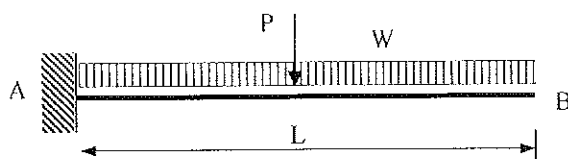

Figure 4
- (b) A cantilevered beam is loaded with **distributed load W** and **central point load P** as shown in Figure 4. Using **Castigliano's first theorem**, determine the rotation and vertical deflection at end B of the beam. (14 Marks)